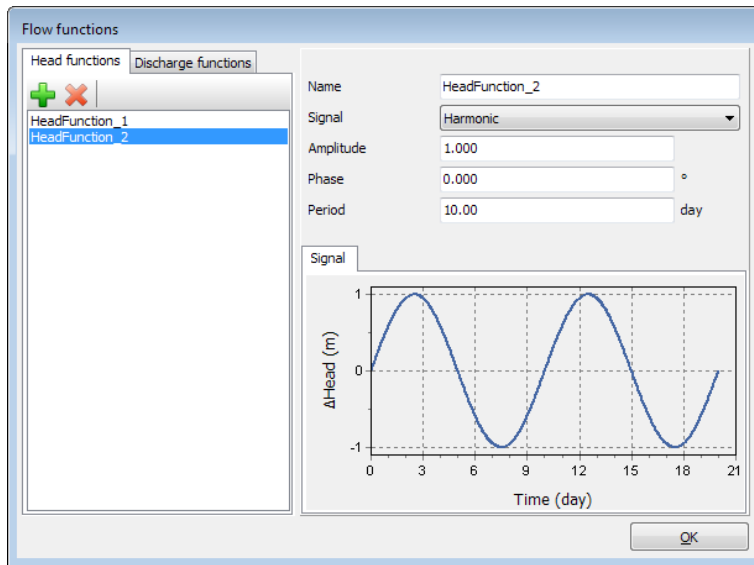

Figure 9.9 The flow function for the slow case
- In the *Flow functions* window select the *Harmonic* option in the *Signal* drop-down menu. Set the amplitude to 1.0 m, the phase angle to 0° and the period to 10.0 day (Figure 9.9).